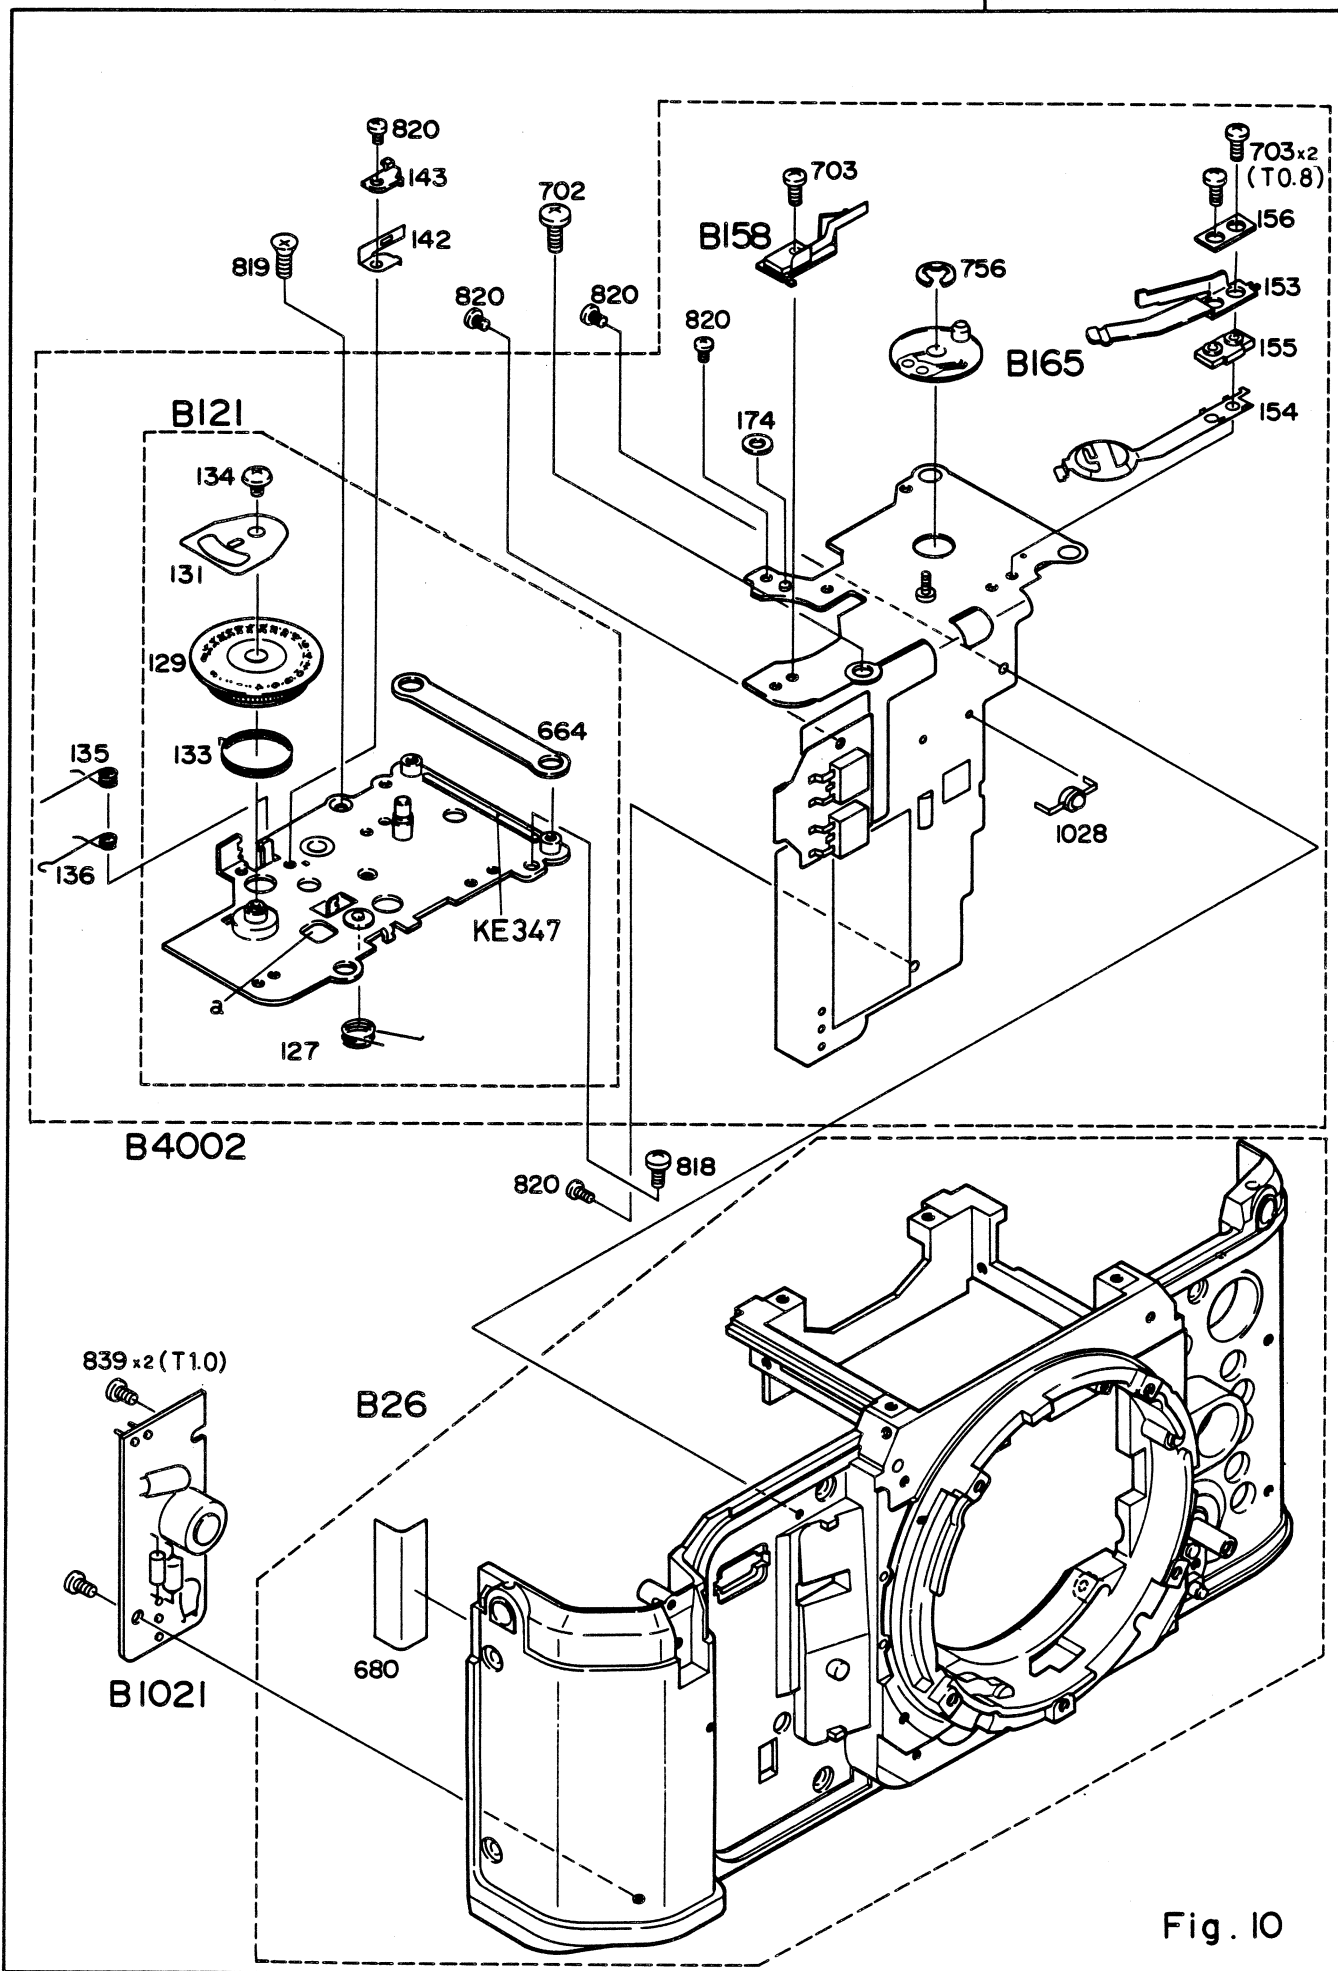

Fig. 10
- ① Set the shutter dial to B
- ② Set the film-advance mode selector to S
- ③ Turn the shutter dial brush ring B165 (Fig. 10) counterclockwise to the limit.